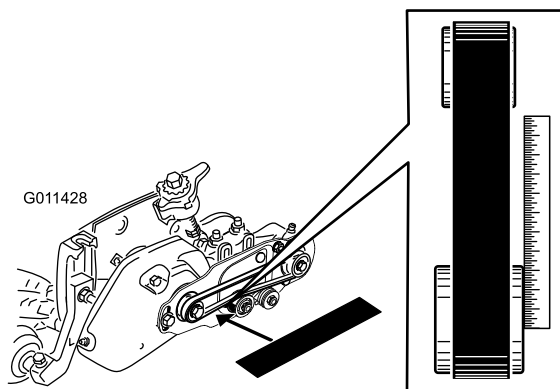

Figure 35
- Lay a straight edge along the outer face of the **drive** pulley (Figure 35).